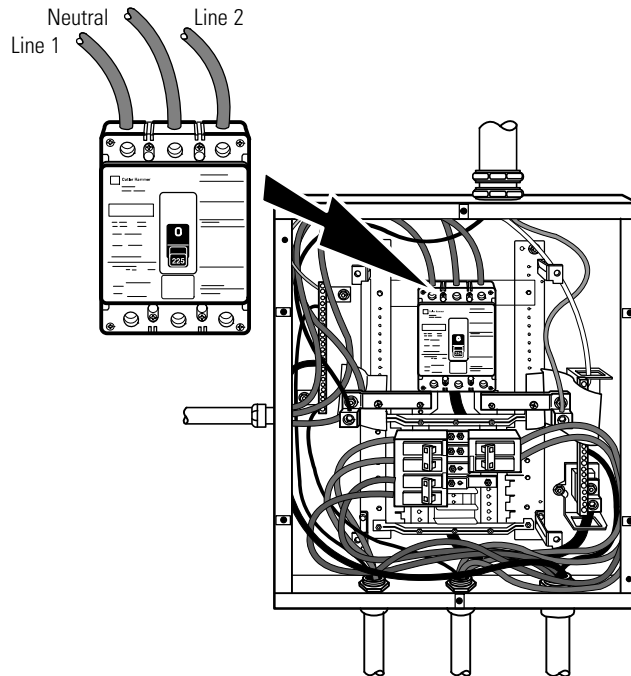

Figure 13. Parallel AC Input Wiring
- 16.** Wire the AC input to the bypass breaker (see Figure 13).